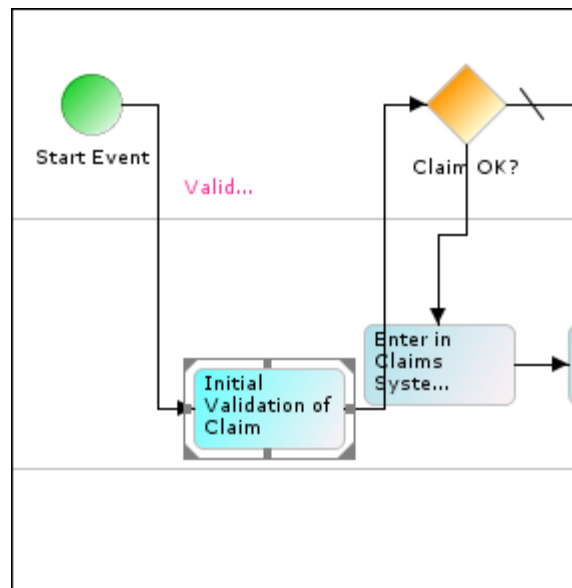

Figure 45: New Color for the Activity Element
- Select the required color for the activity element and click **OK**. This changes the activity element color to the new color (see Figure 45).